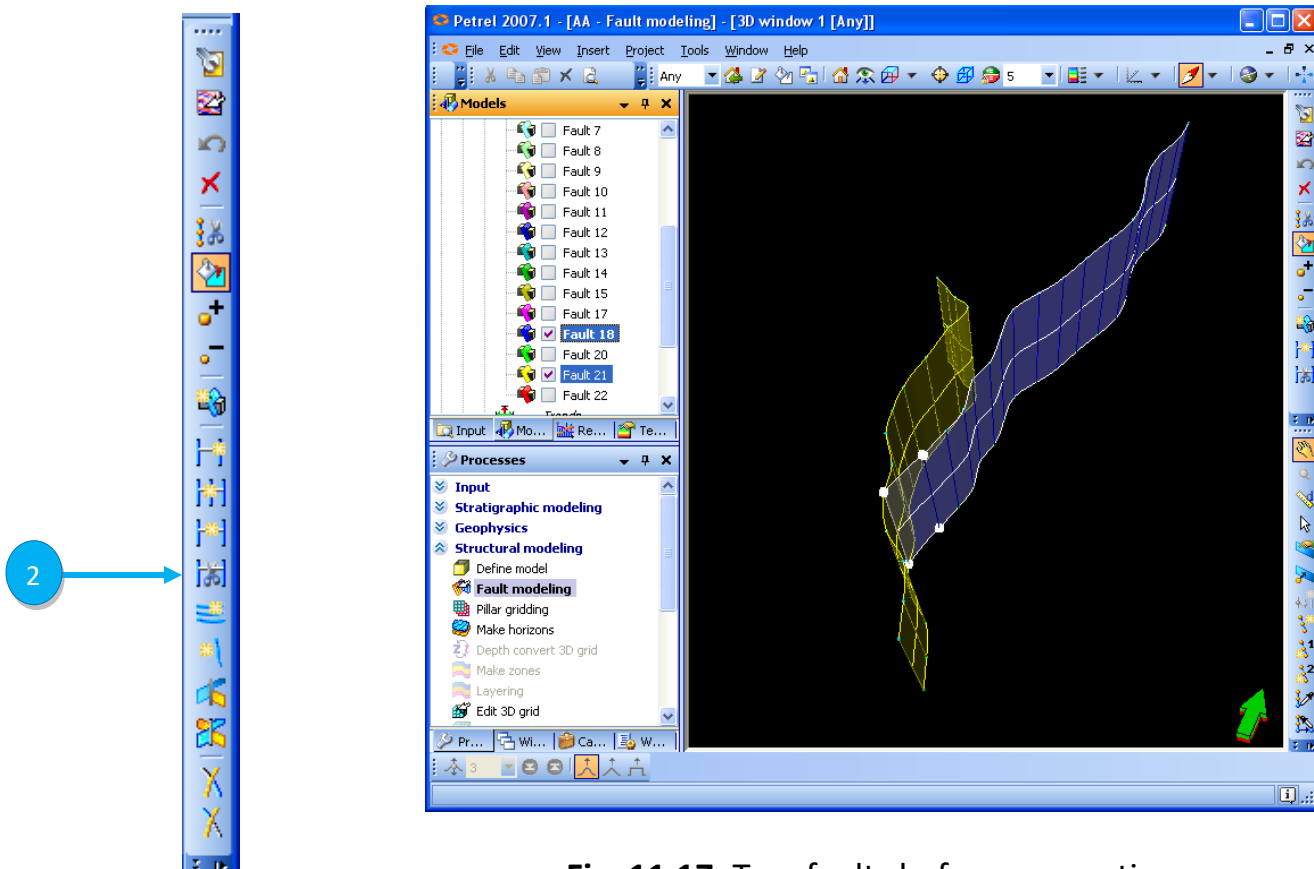

Fig. 11.17: Two faults before connection
2. Click on the **Disconnect Fault** icon. See Fig. 11.17.